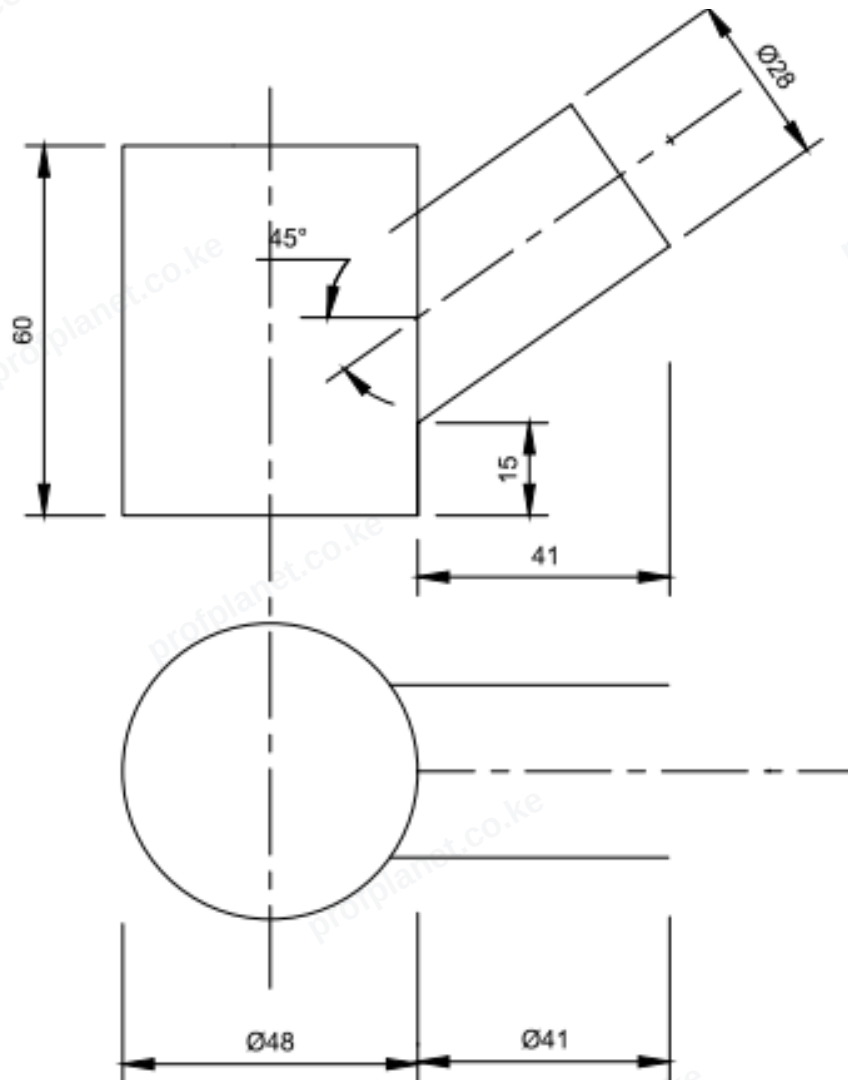

Figure 4
- a. A real-estate company wants to contract you to design for them rain water drainage pipes where two circular pipes are to intersect at an angle as shown in Figure 4 below. Construct the intersection of the two cylinders: (10 Marks)